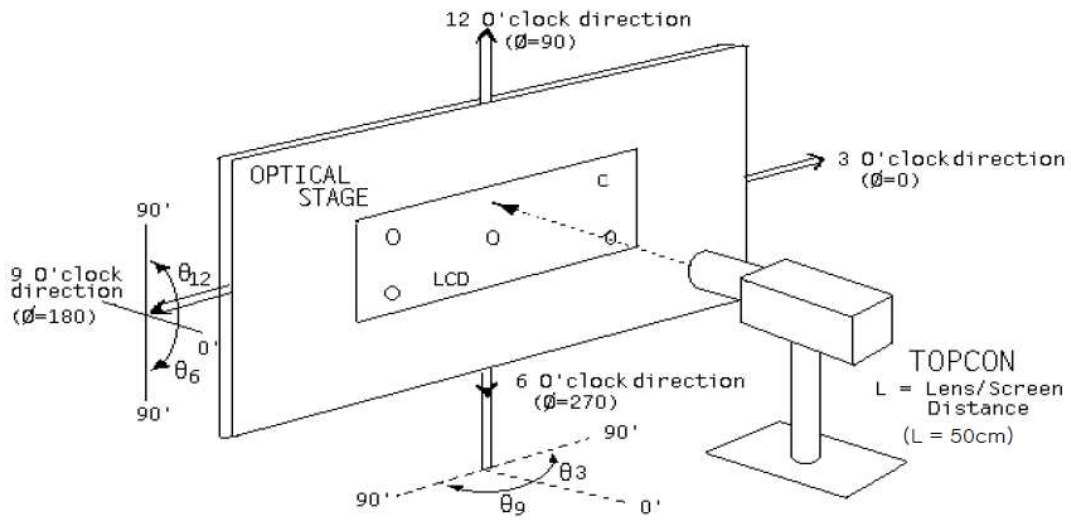

Figure 4: Measurement set up
Note1: Contrast measurements shall be made at viewing angle of  $\Theta = 0^\circ$  and at the center of the LCD surface. Luminance shall be measured with all pixels in the view field set first to white, then to the dark (black) state. (See FIG. 4) Luminance Contrast Ratio (CR) is defined mathematically.